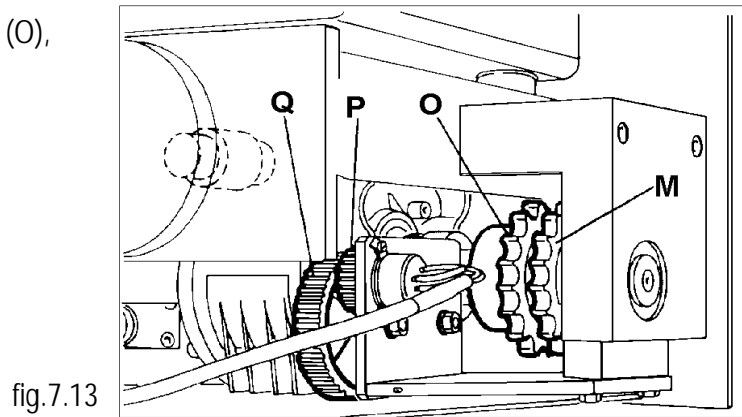

fig.7.13
c.7) Grease the toothed wheels (M), (O), (P) (Q). see fig.7.13.